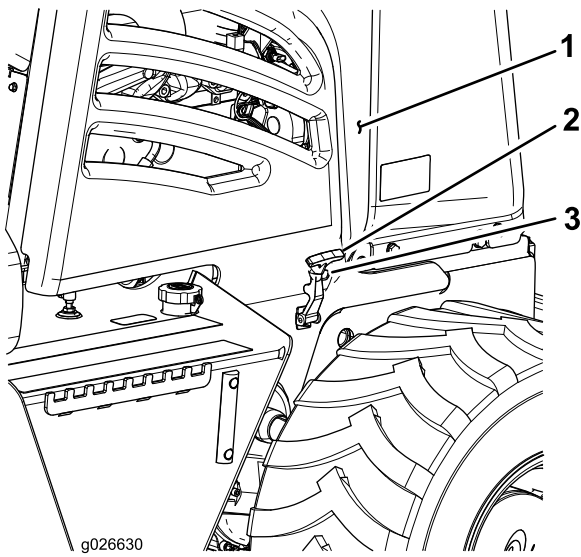

Figure 35
2. Pull up on the hand grip of the panel latch, and swing the latch free from the anchor bracket (Figure 35).
3. Lift the side panel straight up and remove it from the machine (Figure 35).
4. Pull the hand grip of the panel latch outward, then pivot it up until it aligns in the anchor bracket (Figure 35).